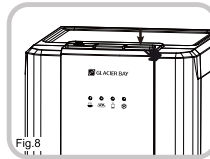

Fig.8
2. Press down the cold water button. (Fig. 8)